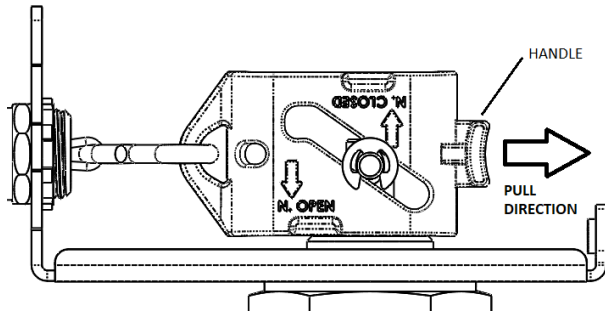

Figure 3 – Valve Closed (S-hook connection)
- c. Set the valve by pulling the cam latch back, using the handle feature, until the pin clicks into place (See Figures 3 and 4).